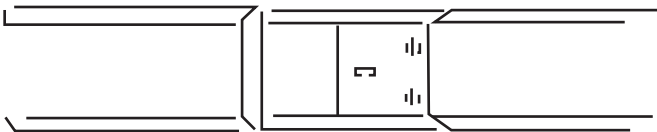

Figure 6.
- **Note:** The clip acts as an attachment mechanism between two pieces of straight run molding (Figure 6). (i.e. when you install clips only half of the clip will be covered by molding. The other half of the clip will serve as the beginning attachment for the next piece of molding clips).